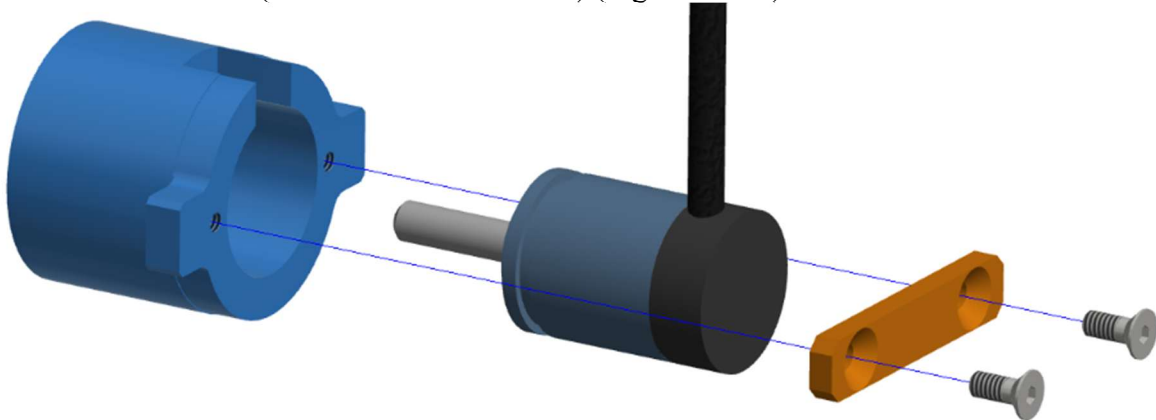

Figure 10-36. Use two M2 X 0.4 X 5 LG. FHCS to attach the Z-Axis Potentiometer Clamp and Inner Mount (474-5832 and 474-5831)
- 10.3.1 Using two M2 X 0.4 X 5 LG. FHCS, attach the Z-Axis Potentiometer Clamp and Inner Mount (474-5832 and 474-5831) (Figure 10-36).